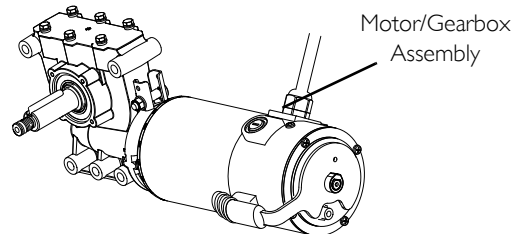

FIGURE 10 Wheel Lock Installation Identification
- Motor assembly Resembles FIGURE 10 - Refer to Installing Wheel Locks for Motor/Gearbox Assemblies on page 105.
- Motor Assembly Does Not Resemble FIGURE 10 - Refer to Installing Wheel Locks for GB Motors on page 106.